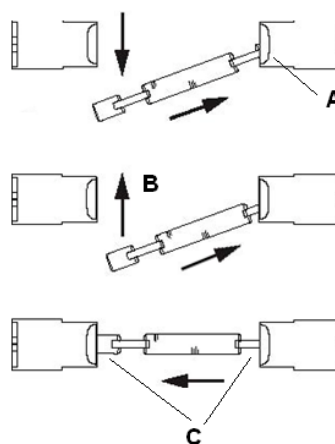

Figure 5.1b
4. Install the new lamp (230 V – 500 W). First press one side of the lamp into the lamp holder (A). Press lamp in its correct position (B) and use its spring pressure to make contact with the other terminal (see figure 5.1b ).
5. Make sure the lamp is correctly clamped between the two terminals (C). If this is not the case, the lamp can move freely along its length-direction, until it is fixed into its terminals (see figure 5.1b).